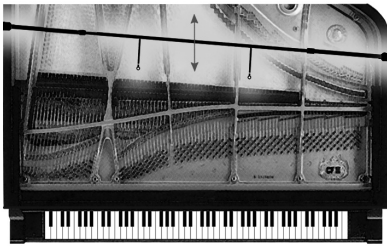
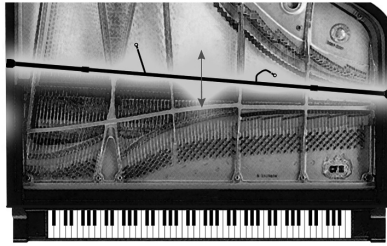

Figure 5. Facing the Mic Heads Towards the Dampers
Figure 6. Facing the Mic Heads Away From the Dampers
5. The PianoMic™ can be placed inside the piano with the microphone heads either facing the dampers (Figure 5) or facing away from the dampers (Figure 6). For optimum results, the PianoMic™ System should be placed in the piano with the microphone heads placed two to three inches away from the dampers. How you place the PianoMic™ System will depend upon the piano, its size and